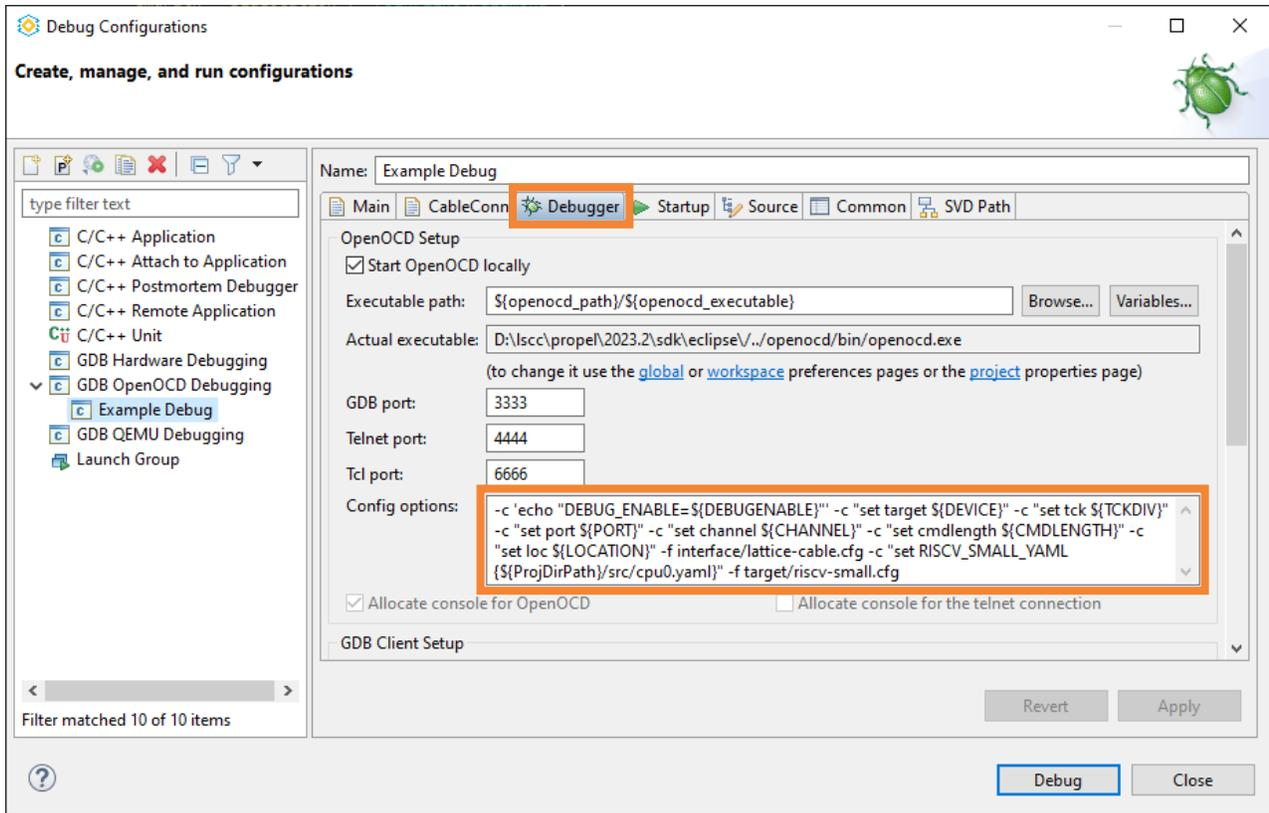

Figure 3.34. Debugger Tab of Debug Configurations
6. Select the **Debugger** tab (Figure 3.34). It is critical that the **Config options** field contains the correct command line options to be passed to OpenOCD.